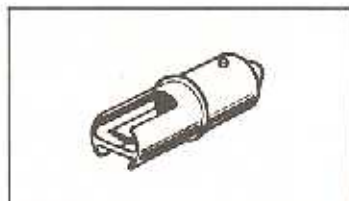

Fig. 23.
- (3) Insert the new glow plug in a manner so that the guard of the glow plug is at the lower side. (Fig.23)